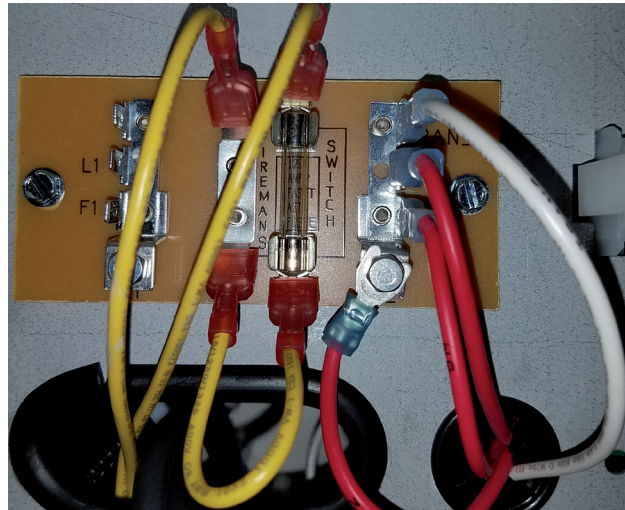

Figure 36.
3. Locate the **Fireman Switch jumper wire**; remove the wire. See Figure 36 below.
4. Connect the **Remote Control Dry Contact wires**. See Figure 36 below.
#### **TIME CLOCK/FIREMAN'S SWITCH (See Figure 36 above):**